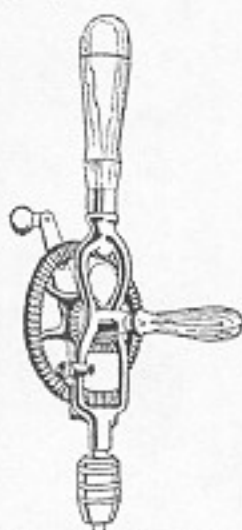

Fig. 162. Hand drill.
2. A hand drill is not properly a woodworker's tool, but it is very handy to have around the shop. It consists of an iron or steel frame which has a handle of wood or metal on its upper end. A short shaft with a chuck having three jaws is fastened to its lower end. The shaft with the chuck is revolved by means of a pinion and a gear wheel (Fig. 162).